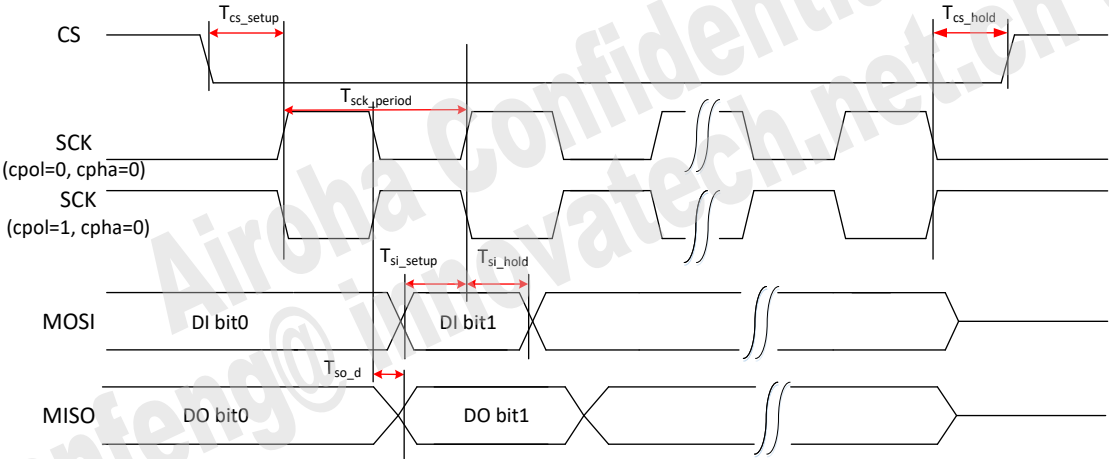
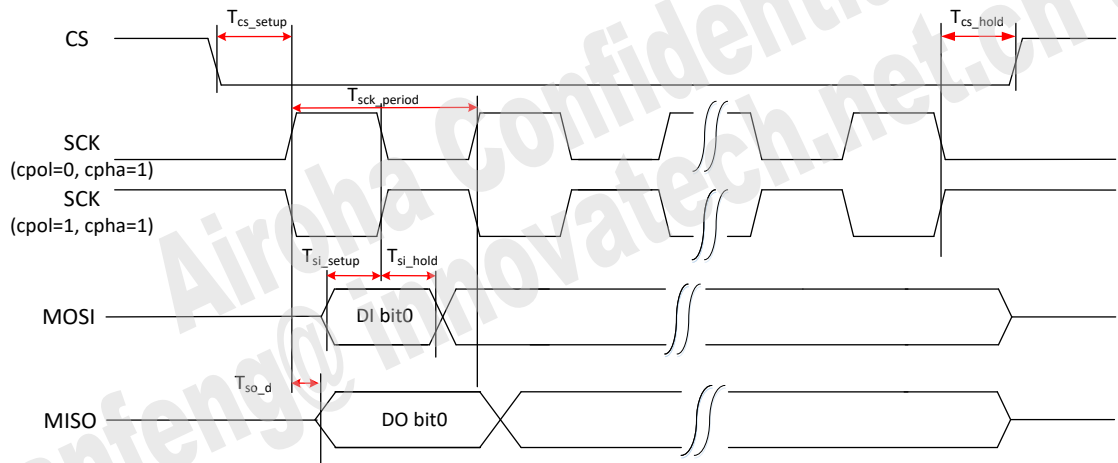

Figure 7.4-3. SPI slave interface timing diagram (CPHA=0)
Figure 7.4-4. SPI slave interface timing diagram (CPHA=1)
- The operating characteristics of the SPI slave at typical temperature (25°C) are shown in Figure 7.4-3, Figure 7.4-4 and Table 7.4-2. CPOL defines the clock polarity in the transmission. CPHA defines the legal timing to sample data.